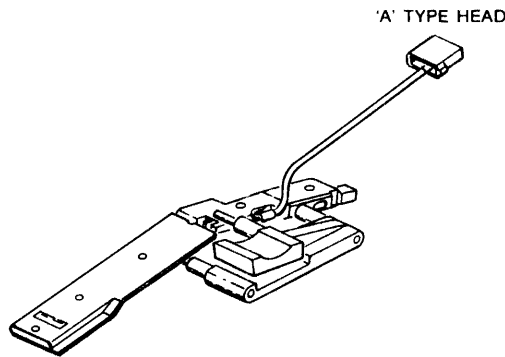
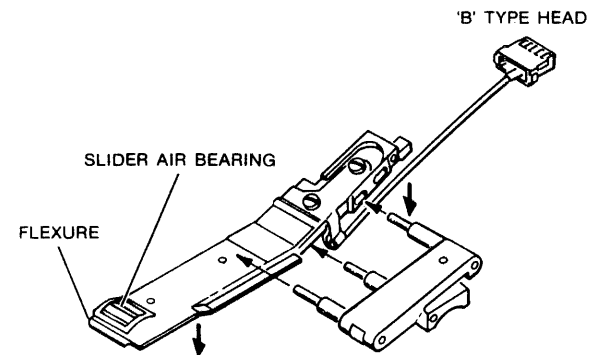

FIGURE 4-7. HEAD INSTALLATION TOOL IN 'A' TYPE HEAD
FIGURE 4-8. HEAD INSTALLATION TOOL IN 'B' TYPE HEAD
8. Grip head assembly with Head Installation Tool, as indicated in Figure 4-7 ('A' type head) or Figure 4-8 ('B' type head).
9. Close jaws of installation tool completely and remove head assembly from drive. Do not touch the slider face or press against the flexure (see Figure 4-8). Even slight pressure against the flexure could bend it; excessive pressure will damage the head's pitch and roll attitude adjustments.
- c. To hold a head assembly, grip it with the Head Installation Tool as indicated in Figure 4-7 ('A' type head) or Figure 4-8 ('B' type head).